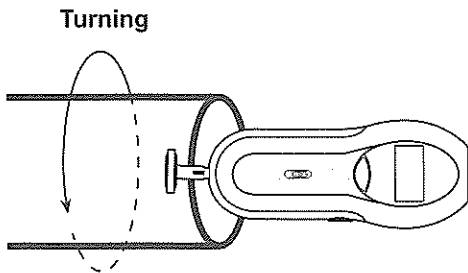

Figure 5
- Lightly press the surface speed test wheel against the surface of the turning object ( Figure 5 ), press and keep pressing the **TEST** button.